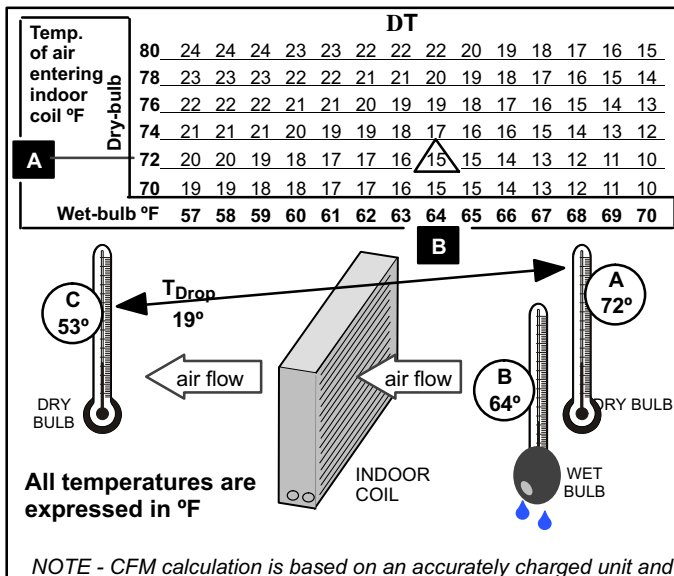

Figure 2
Check airflow using the Delta-T (DT) process using the illustration in figure 2.
1. Check the airflow using figure 2 to be sure the indoor airflow is as required. (Make any air flow adjustments before continuing with the following procedure.)